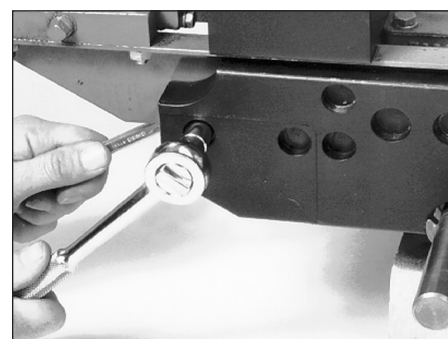

Figure 4
9. Install a 1/4" nut onto the forward frame weight screw and tighten securely (Figure 4).